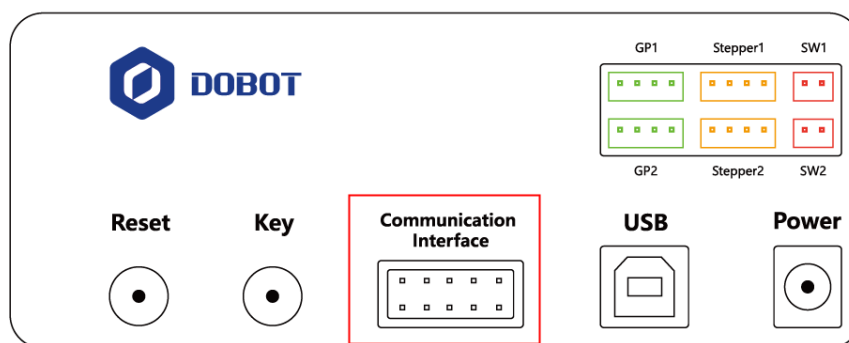

Figure 5.162 Connect with WIFI kit
Step 1 Connect the WIFI kit to the UART interface on the base, as shown in Figure 5.162.